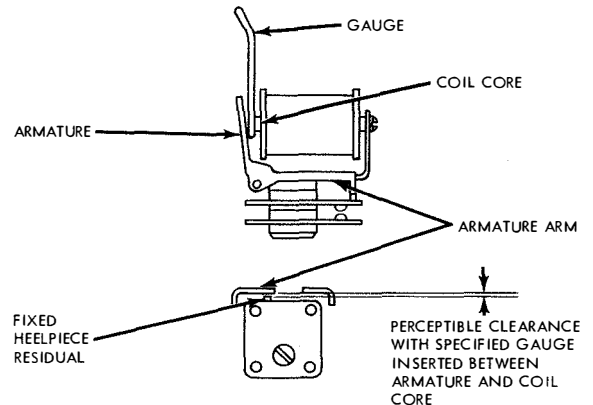

Figure 7-125. Class S Relay Armature Travel
(2) **ARMATURE TRAVEL (STROKE).**—The armature travel (stroke), when specified in the relay adjustment table, is checked by placing the specified gauge, held parallel to the armature, between the armature and coil core with the gauge completely overlapping the core. There must be perceptible clearance between the armature arm and the welded disk in the heelpiece. For inspection, gauge tolerance of plus 0.002-inch and minus 0.001-inch shall be allowed unless otherwise specified (see figure 7-125).